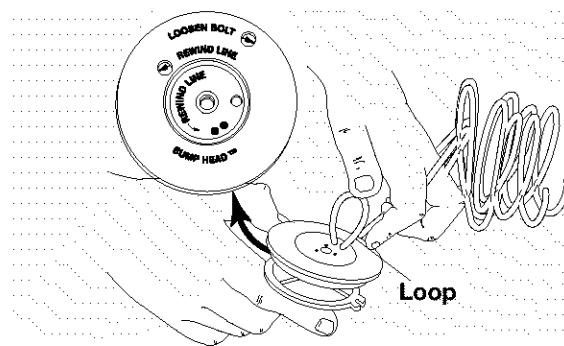

Fig. 23
- Take approximately 25 ft. (7.6 m) of new trimming line. Loop it into two equal lengths. Insert each end of the line through one of the two holes in the reel. Pull the ends through equally until the loop is as small as possible (Fig. 23).